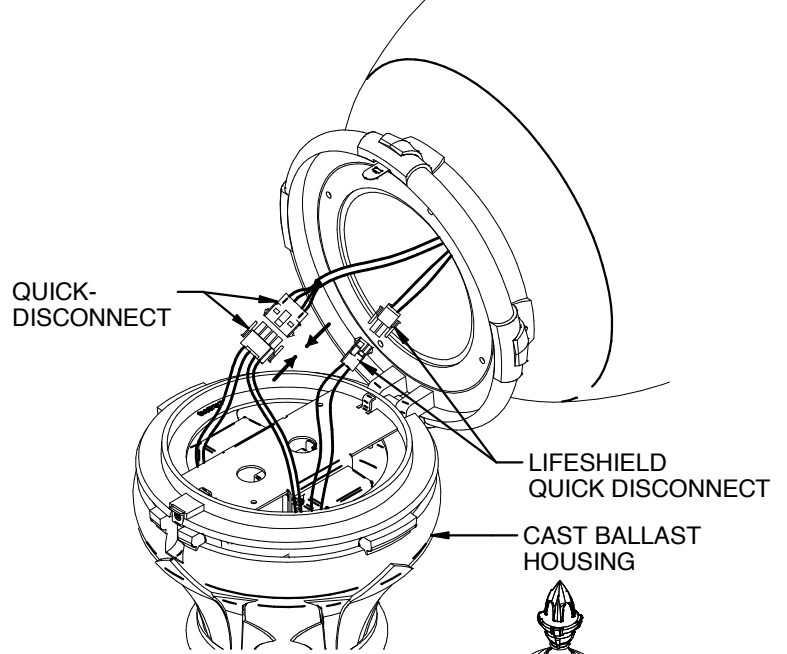

FIG. 4-2
3. MAKE WIRE CONNECTIONS BY CONNECTING QUICK DISCONNECT FROM DRIVER ASSY TO SOCKET ASSY, AND LIFESHIELD QUICK DISCONNECT. (FIG. 4-2)